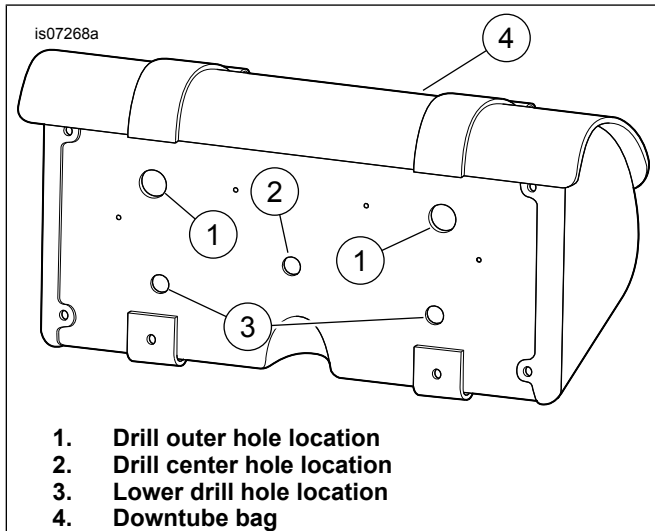

Figure 3. Drill Hole Locations for Dyna Models Without Engine Guard
1. See Figure 3. Starting with a 5 mm (3/16 in) drill bit, drill five pilot holes (1, 2, and 3) through the back of the downtube bag (4) at the locations specified. Drill indicators are located on the back of the plastic base. Take care not to damage the front face of the bag with the drill bit.
2. Enlarge the two outer mounting holes (1) using a 10.5 mm (13/32 in) diameter drill. Enlarge the center mounting hole (2) and lower mounting holes (3) using a 7.25 mm (9/32 in) diameter drill.